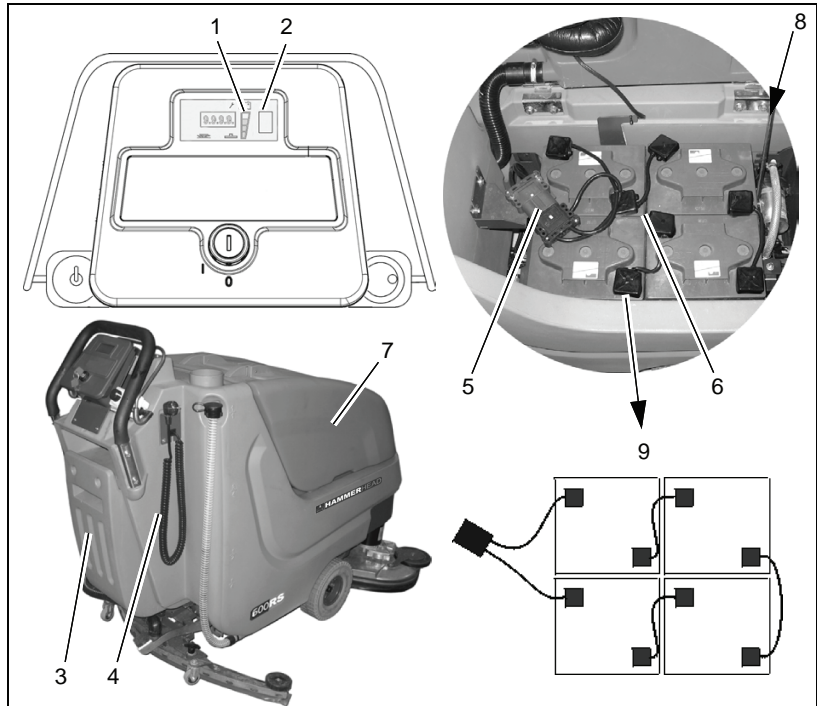

Fig.7
Use the integrated battery charger (Fig. 7/3) to charge batteries. Proceed to connection of the charger by means of the mains cable (Fig. 7/4) with safety plug. Charging batteries is recommended if at least one bar of the LDS display has extinguished after operation of the machine. On this behalf you are requested to observe the operating instructions of the charger 88-60-2723 as well as the operating instructions of the battery manufacturer. In case it is intended to change the type of battery the charger has to be adjusted only by Bortek contract workshops.
3. Open empty recovery tank (Fig. 7/7) and secure by support (Fig. 7/8).
4. Disconnect battery connector (Fig. 7/5).
2. Open empty recovery tank (Fig. 7/7) and secure by support (Fig. 7/8).
4. Connect battery poles and enclosed connecting cables according to wiring diagram (Fig. 7/9). Provide for tight fitting and grease poles.